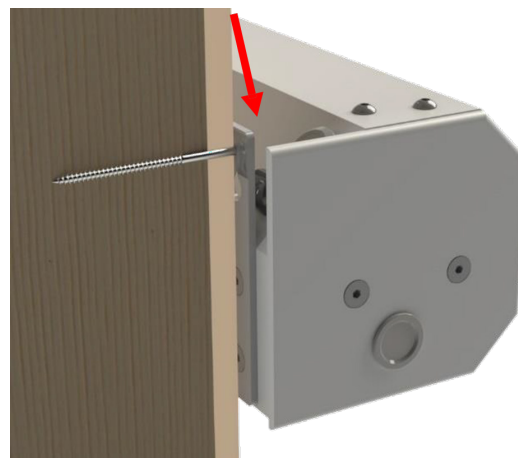

Figure 9. RS1 mounted on ceiling with Threaded Rod Mount **Note:** screws must not be showing, like on the render, the cutaway is for demonstration.
3. Raise the screen wall mounts onto the screws. Large diameter hole first, then gently lower the case until the entire unit is sitting on both screws fully (see Figure 9).